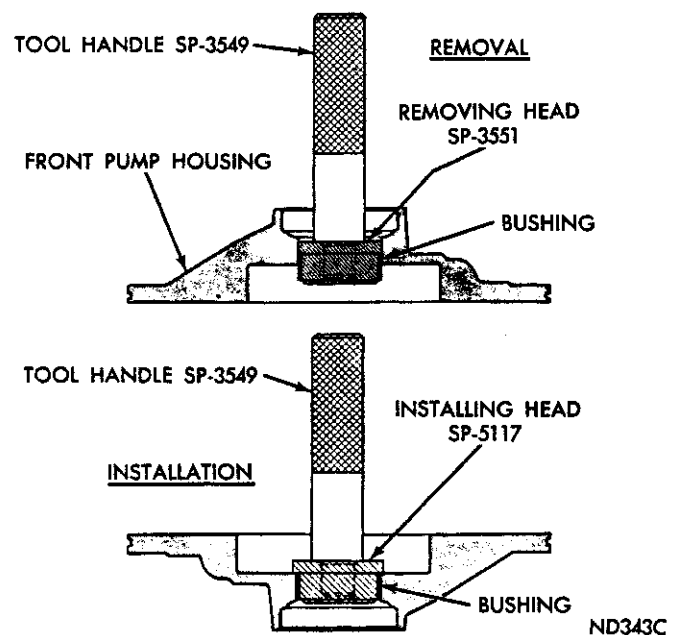
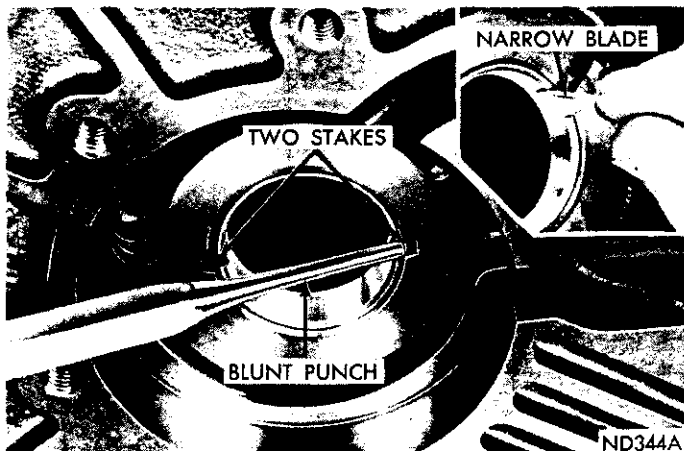

Fig. 46—Replacing Pump Bushing (A-904)
Fig. 47—Staking Pump Bushing (A-904)
- (1) Place pump housing (seal face down) on a smooth firm surface.
- (2) Place removing head, Tool SP-3551 in bushing and install handle, Tool SP-3549 in the removing head (Fig. 46).
- (3) Drive bushing straight down and out of pump housing bore. Be careful not to cock tool in the bore.
- (4) Position new bushing on installing head, Tool SP-5117.
(5) With pump housing on a smooth clean surface, start bushing and installing head in the bushing bore. Install handle, Tool SP-3549 in the installing head (Fig. 46).
(6) Drive bushing into housing until tool bottoms in the pump cavity. Be careful not to cock tool during installation.
(7) Stake bushing in place by using a blunt punch or similar tool (Fig. 47). A gentle tap at each stake slot location will suffice.
(8) Using a narrow-bladed knife or similar tool, remove high points or burrs around staked area (Fig. 47). Do not use a file or similar tool that will remove more metal than is necessary.